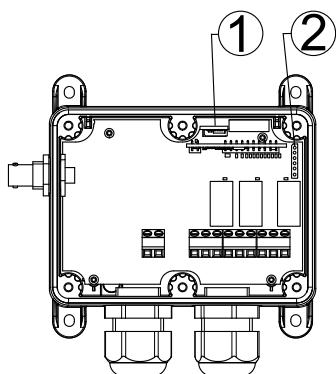

Figure 10. Memory card and display slots in the receiver
4. Insert the memory card that you want to copy in the memory card slot in the receiver (see fig. 10).
5. Mount the display card in the display card slot (see fig. 10).
4. Insert the memory card that you want to copy all parameters to in the memory card slot (see fig. 10).